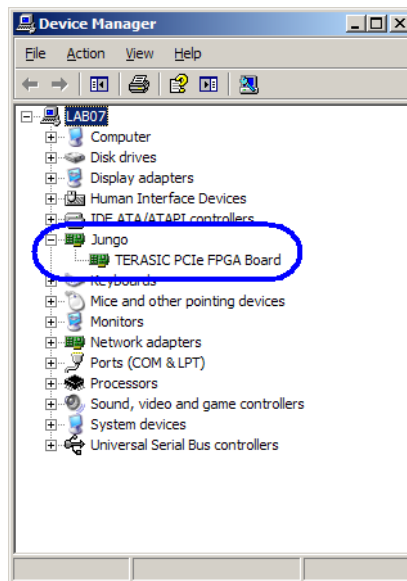

Figure 7-11 Device Manager
- Once the driver is successfully installed, users can view the device under the device manager window shown in **Figure 7-11**.